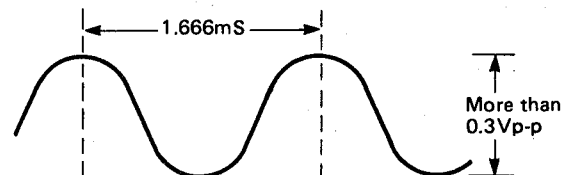

Figure 84.
2. Observe the output of TP-706 on oscilloscope, and check its values are as shown in Fig. 84.